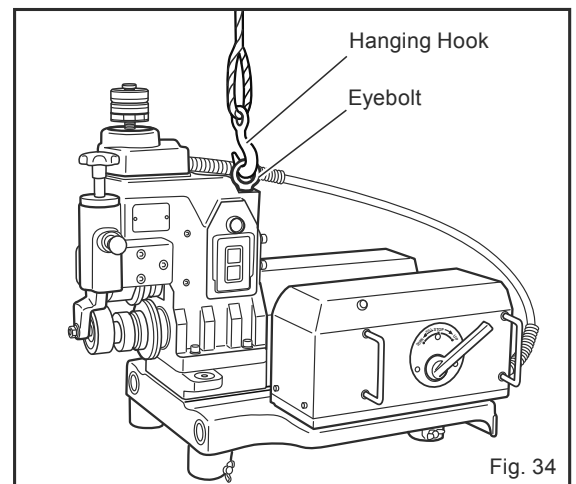

Fig. 34
- To carry the machine, use a hoisting device, such as a crane. Use a hanging hook to hoist the machine using the eyebolt hole on the main body. (Fig. 34) Before connecting the hook, make sure that the eyebolt is fixed on the body and does not rotate. Do not connect the hanging hook to any part other than the eyebolt.